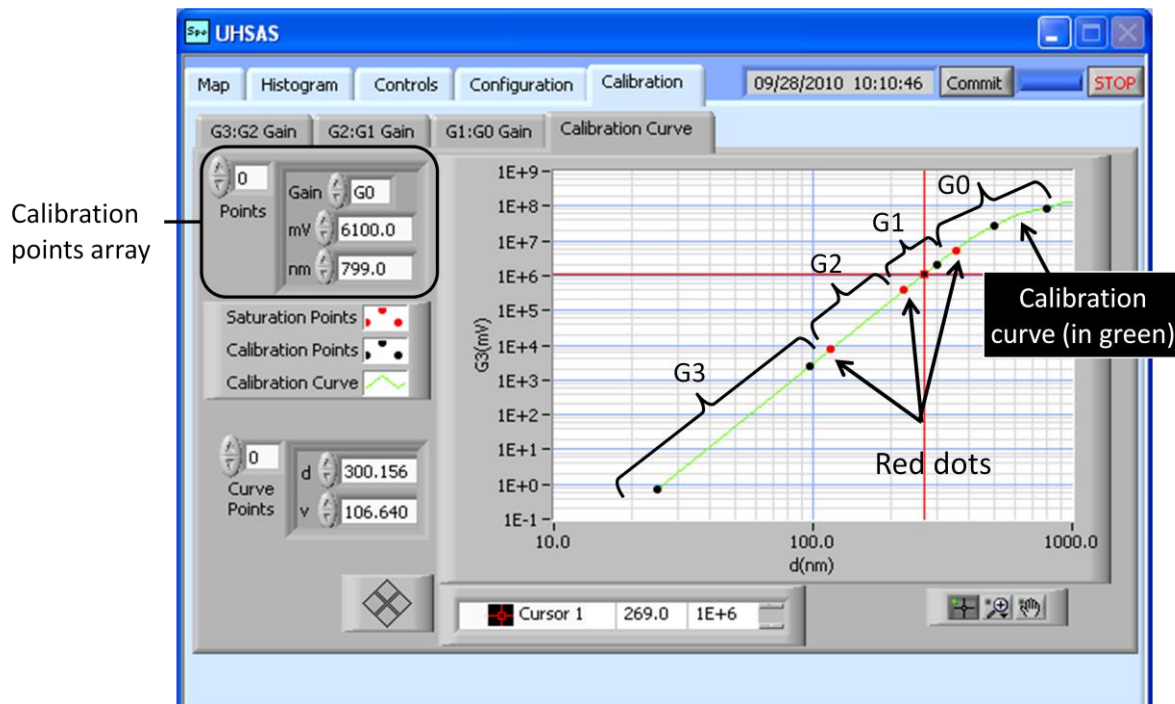

Figure 18: Calibrating the UHSAS
- 3.) Clear all data from the calibration points array (see Figure 18) EXCEPT for the 100-nm point on gain stage. To clear a data point, right-click in the cluster box that contains the three point values (Gain, mV, nm) and select **Delete Element**. **Note:** The points array displays one point's information at a time.
- 4.) With your collection of particles, note in which gain stage each particle will be measured by looking at the size of the particle and the calibration curve. The red dots on the calibration curve indicate the saturation levels of each gain stage—i.e., the largest particles measurable on each stage. For example, the region below the first red dot is covered by G3, the region between the first and second red dots is covered by G2, etc. See Figure 18.